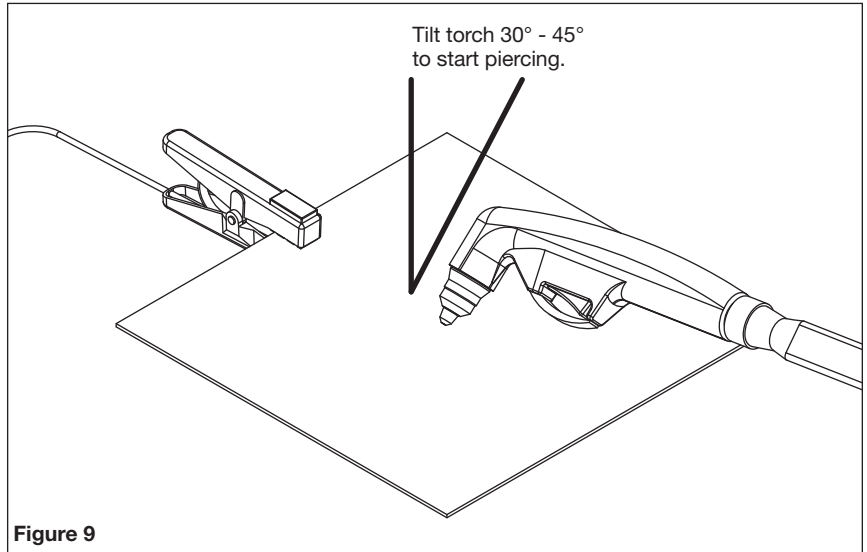

Figure 9
1. Position torch tip at the desired pierce location. Tilt the torch toward one side about 30° - 45° with tip resting against the workpiece. See Figure 9.